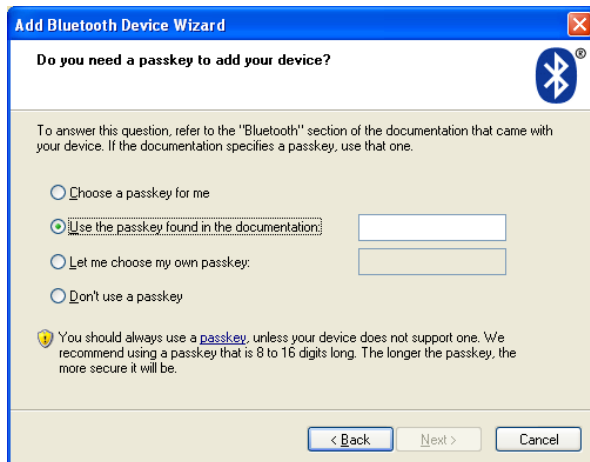

Figure 10 – Bluetooth Passkey window.
- Click **Next** to advance to the Bluetooth® Passkey window (Figure 10).